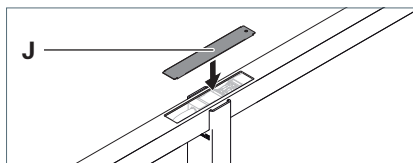

Fig. 4: Mounting the cover on the support tube.
- ▶ Press the cover **J** vertically on the recess in the support tube, see Fig. 4.